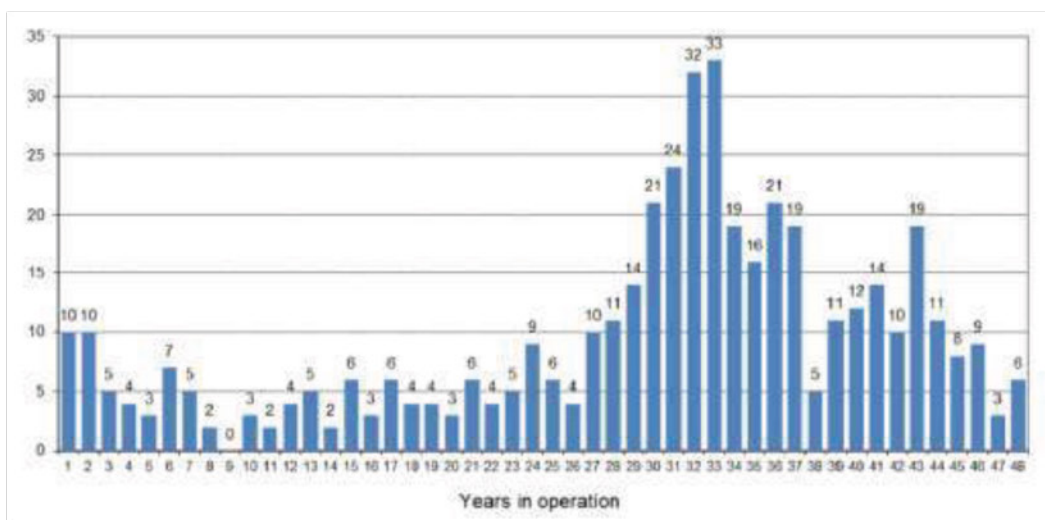

Figure 4. Operational reactors of the world by age, December 31, 2016 (9)
High-value and high-risk assets are ageing, yet there is a need for their further use. Materials ageing may lead to the gradual degradation of safety margins of structures. The average age for oil refineries and associated pipelines in the USA is more than 40 years; these assets are required to run at high capacities (8). Besides other ageing mechanisms, it is obvious that corrosion is a leading degradation mechanism at this age. If we look at the age of nuclear power plants being in operation worldwide, it is evident that 65% of the operating reactors exceed 30 years approaching or sometimes reaching design life, see Figure 4.